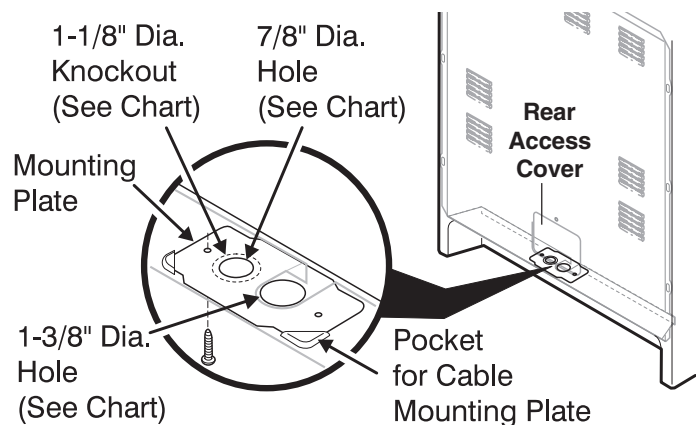

Fig. 8
See Range Connection Opening Size Chart (Figs. 8 & 9) for cord kit ampere rating information. Terminals on end of wires must be either closed loop or open-end spade lugs with upturned ends.
The Rear Access Cover must be removed (Fig 8). To remove, loosen center screw (one screw) and remove cover. The terminal block will then be accessible.
1. Follow the manufacturer's installation instructions supplied with the strain relief and install (Also see Figs. 8, 9, & 10).
3. Make sure all connections are tightened securely and replace the rear access cover (See Fig. 8).